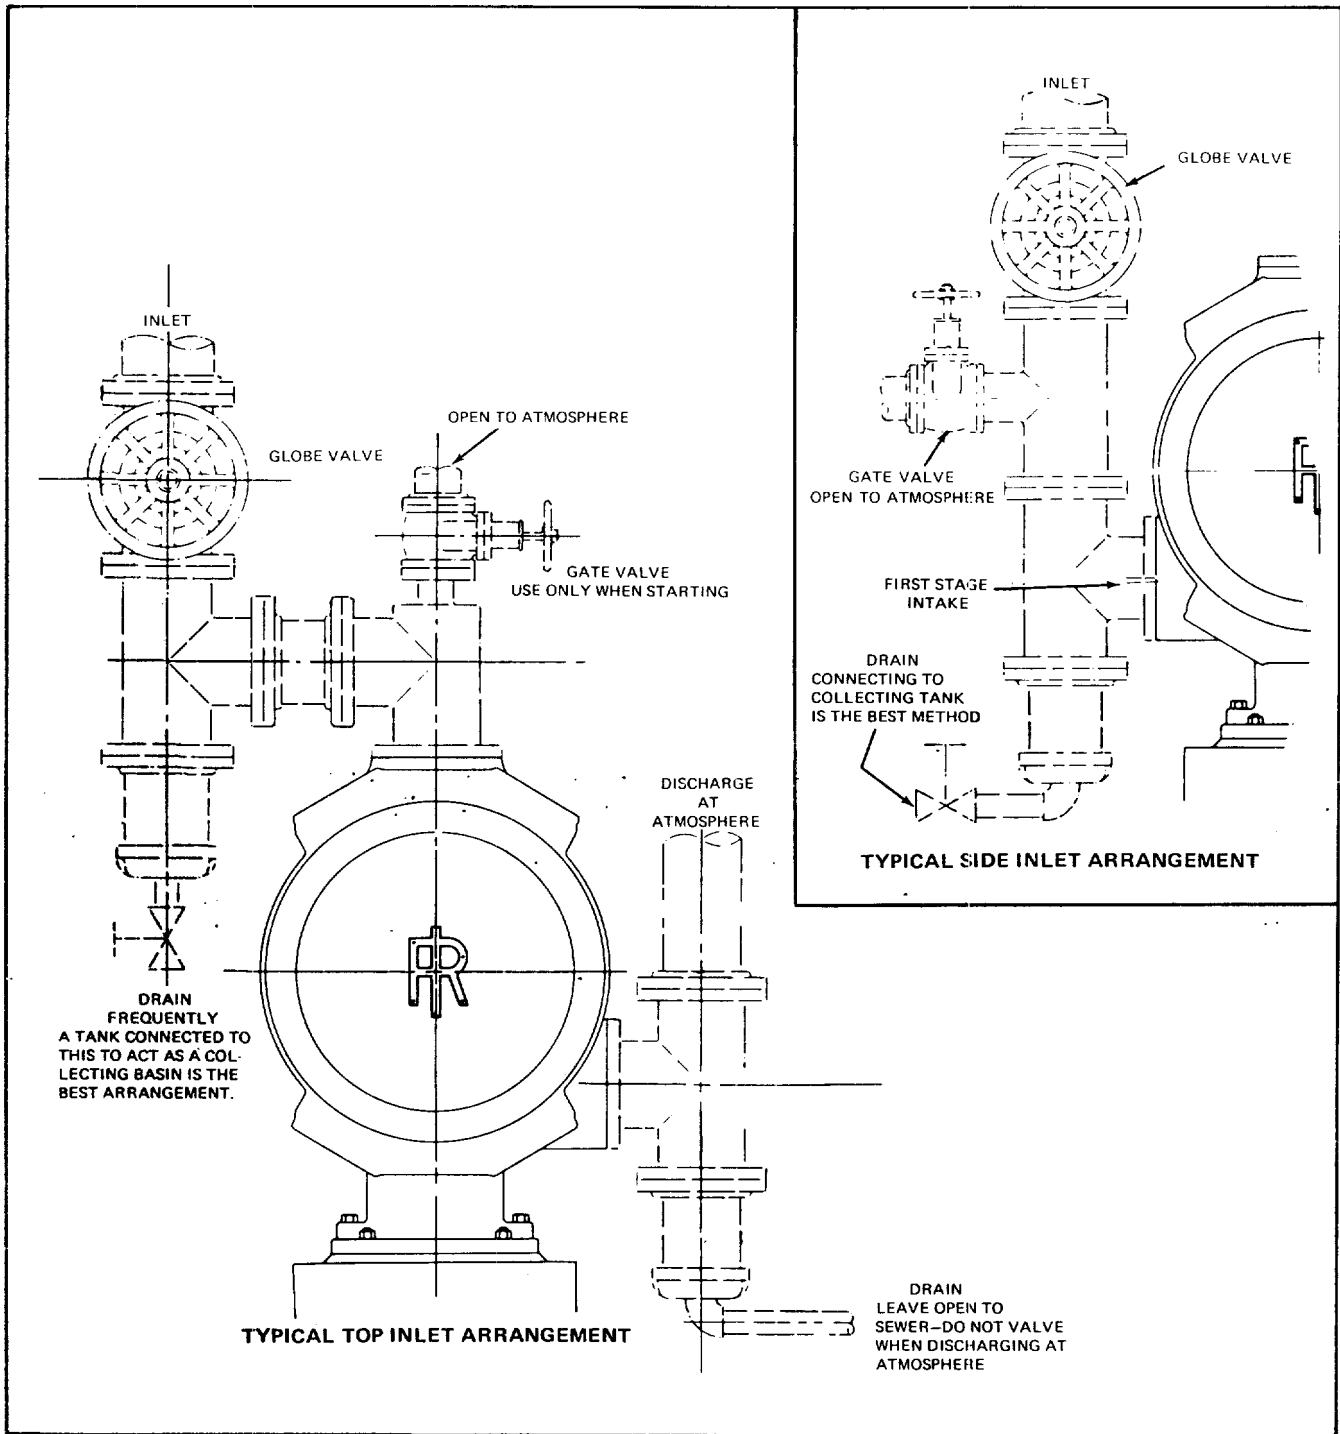

Figure 7. Typical Piping Arrangement - Vacuum Pump
It is equally important to safeguard against moisture being drawn into the cylinder. Moisture will wash away the cylinder lubricant, and if large quantities should accumulate in the intake pipe and be drawn into the cylinder, the non-compressibility of the liquid may cause breakage of parts. For these reasons, give careful attention to the piping layout. Arrange the piping so that moisture will not drain back into the cylinder and provide for draining low spots. Follow the suggestions shown in Figure 7.
**Vacuum Pump**—If the vacuum pump discharges to atmosphere, it should be protected so that moisture, dust, or other waste materials will not carry back into the cylinder. When the vacuum pump handles saturated air at the inlet, considerable condensation often occurs in the discharge pipe. This will eventually become a source of trouble unless precautions are taken to drain the condensation away from the cylinder. Figure 7 illustrates how this can be done.